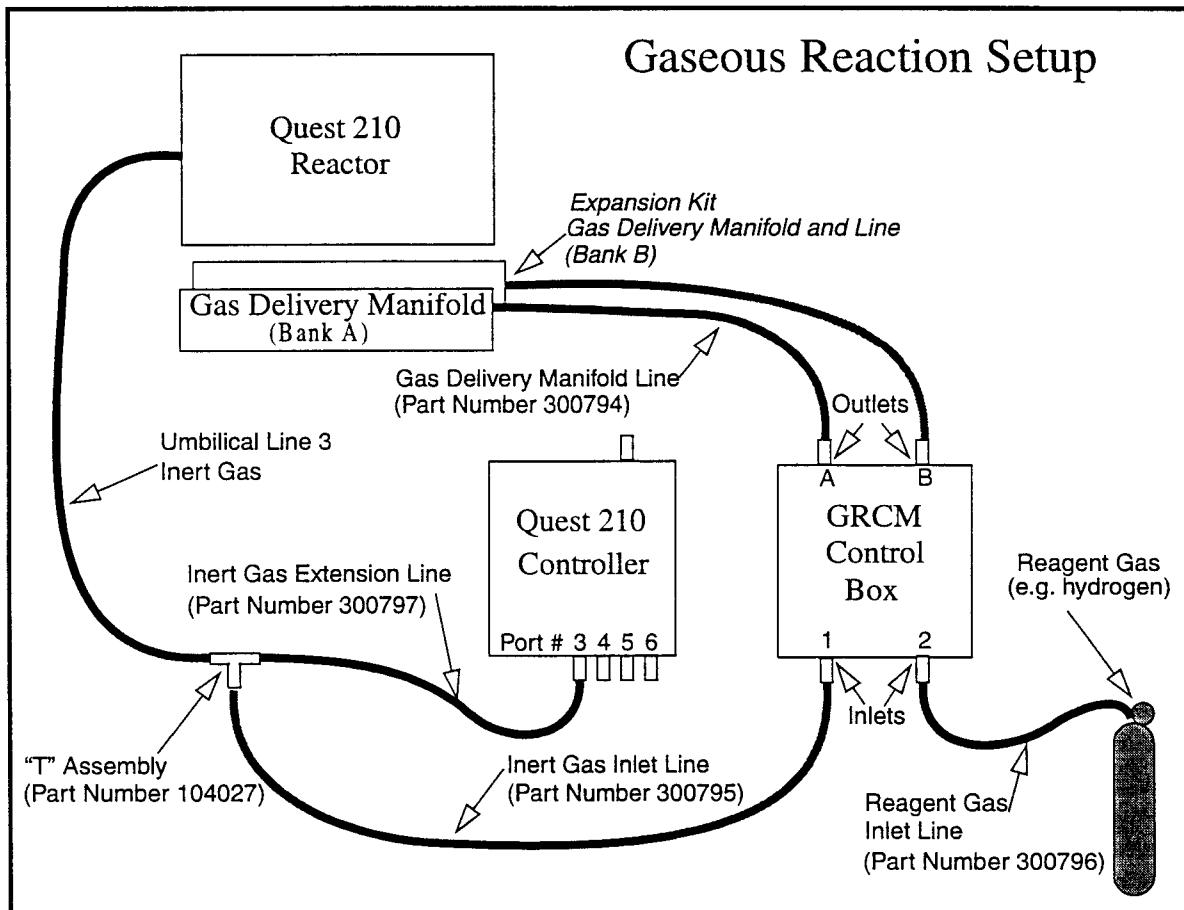

Figure 8: Setup for Hydrogenation
- 1. Set up the Quest and GRCM as shown in Figure 8.**